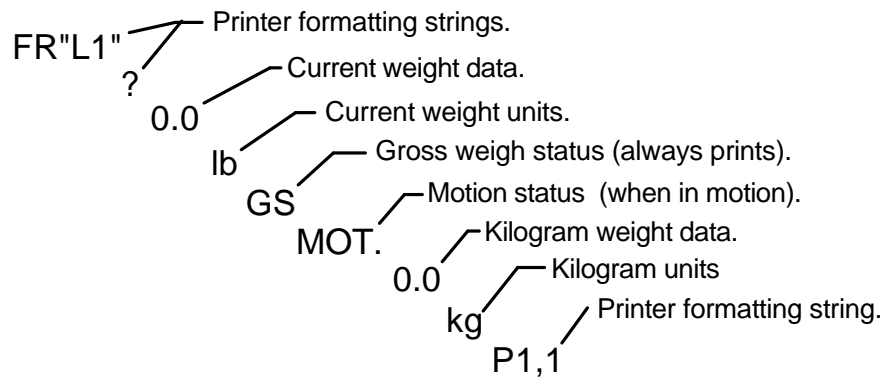

**Fig. 3 Format "D0" form.**
**"F0" Format:** The basic data format sent by the 4300 is illustrated in Fig. 1 through Fig. 3. Each line of data begins with an STX character (start of text) followed by a polarity sign which indicates the reading polarity. Next the displayed data is sent. Six
**"D0" Format:** In the "DUAL PRINT" format, the weight is first printed using the "F0" format. Then the weight is recalculated in kilograms and is sent as a second line of text. The kilogram data follows the "F0" data format except where parentheses are placed after the STX character and before the carriage return, line feed. Refer to Fig. 3.